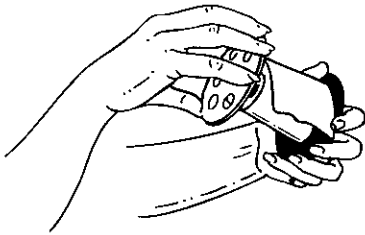

Figure 3.24 Removing metal side of the take-up reel.
2. Hold the black side of the take-up reel in one hand and, with the other hand, pull off the metal side of the reel (Fig. 3.24).